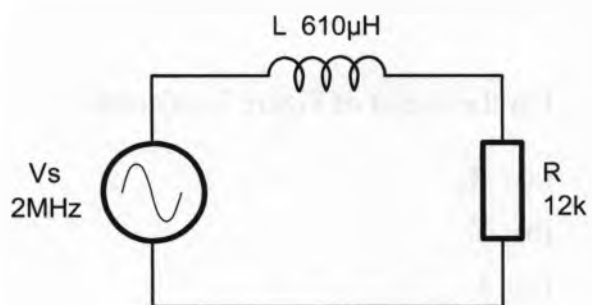

Figure 2
3. For the circuit of Figure 2, if the potential difference across the resistor (V_R) is 4.2V (peak), then calculate: